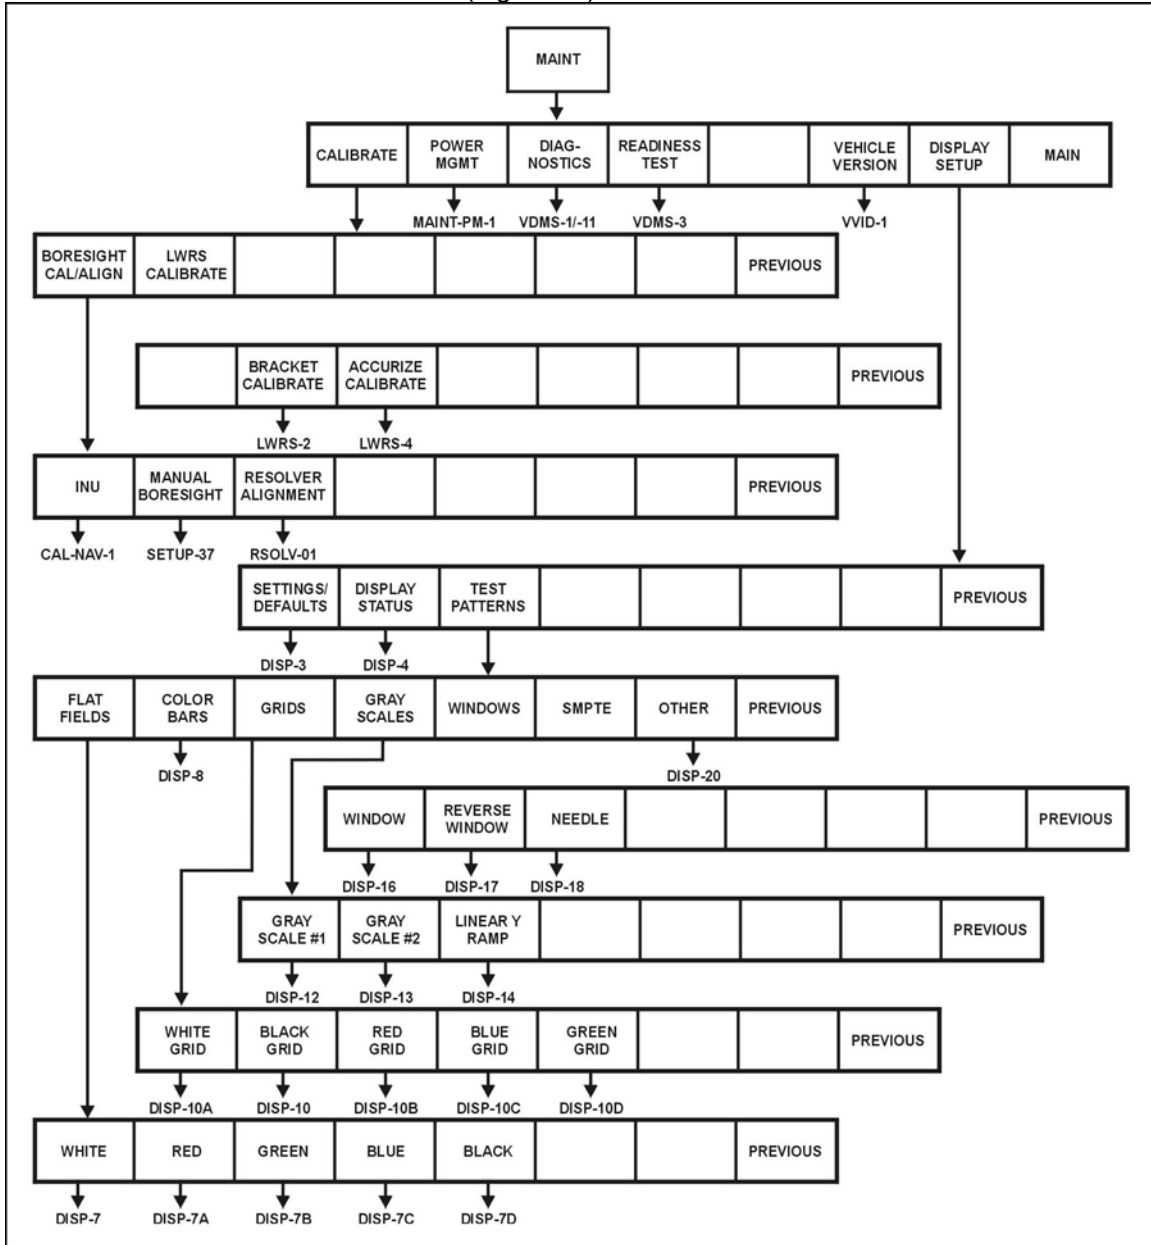

Figure 15. Maintenance menu structure.
- (10) Select PREVIOUS to return to the main menu.
- c. Select the maintenance function (Figure 15).